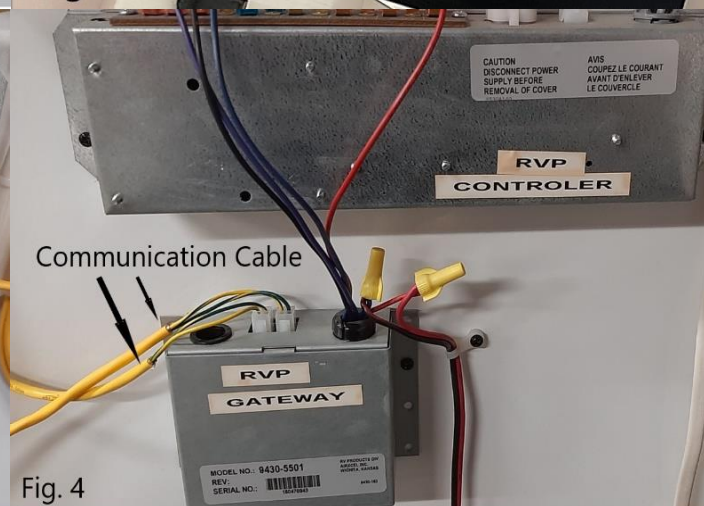

Fig. 4
2. System with two Roof A/C's. Turn off the A/C's, remove the return air grill, and locate the Gateway's. The EOL will need to be installed on the 2nd A/C's Gateway. The first A/C Gateway (typically the middle of the unit) will have two communication cables plugged in (See Figure 4). One cable from In-Command to the 1st A/C, one cable from the 1st A/C to the 2nd A/C. The second A/C Gateway should look like Figure 1, if not, take corrective action.
3. System with one Roof A/C and Pre-Wired for 2nd A/C. If Pre-Wired for 2nd A/C, the 1st A/C Gateway may have two communication cables plugged in, See figure 4. One cable from In-Command to the 1st A/C, one cable from the 1st A/C to the 2nd A/C. The 2nd A/C communication cable will need to be unplugged and the EOL Resistor will need to be plugged in to that port. See Figure 1. The 2nd communication cable can be left protected and unplugged. To determine which communication cable is "live" unplug one cable at a time and operate the A/C functions at the In-Command panel.